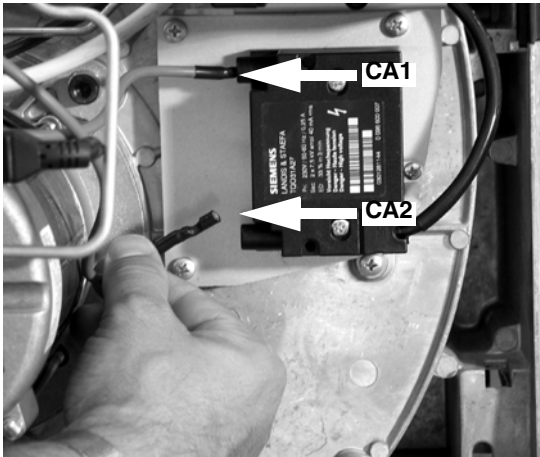

Fig. 22
- Disconnect the ignition cables CA1 and CA2 from the transformer (Fig. 22).